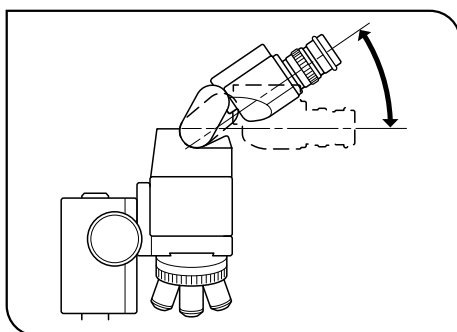

Fig. 14
**6 Adjusting the Tilt (with the U-TBI3/SWETTR2) (Fig. 14)**